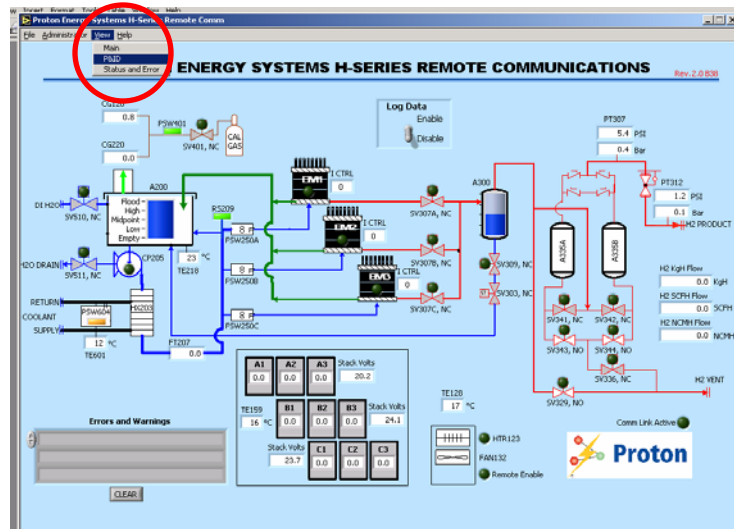

Figure 76 Navigating Through the Screens
2. On the pull down menu, select the screen. (Refer to Figure 76.)